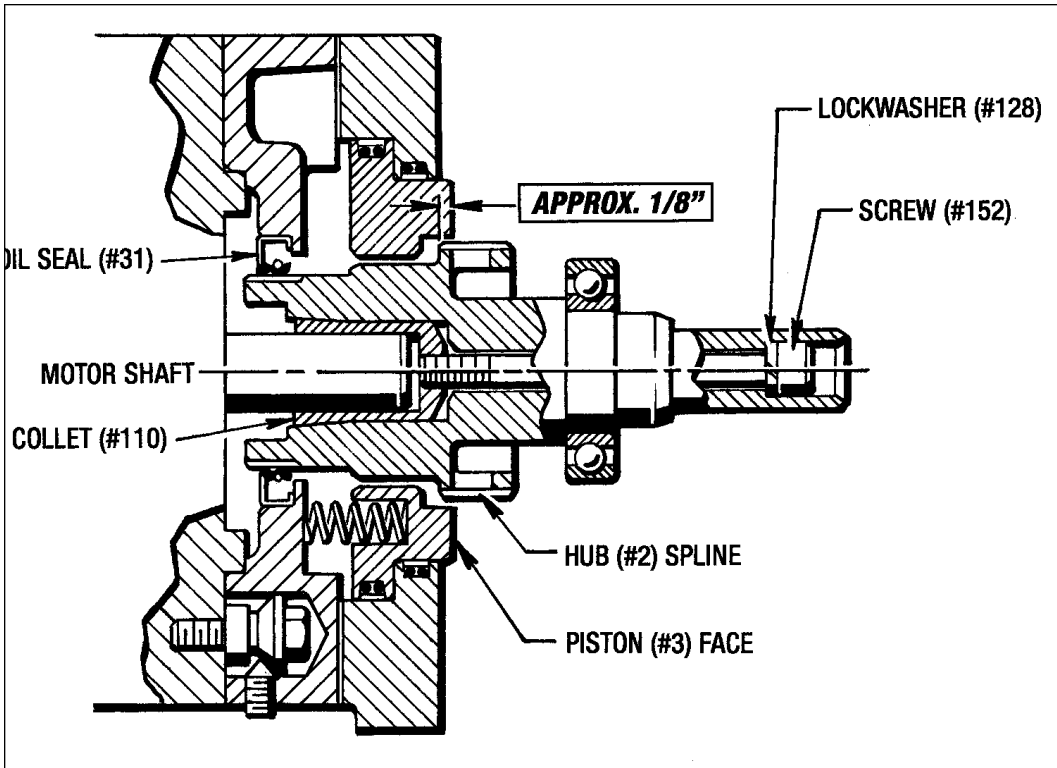

Figure 9.5 - Installing Hub (#2)
3. Carefully insert the Hub (#2) on to the motor shaft and into the Oil Seal (#31) until the back edge of the Hub (#2) spline is approx. 1/8" past the Piston (#3) face as shown in *Figure 9.5*.